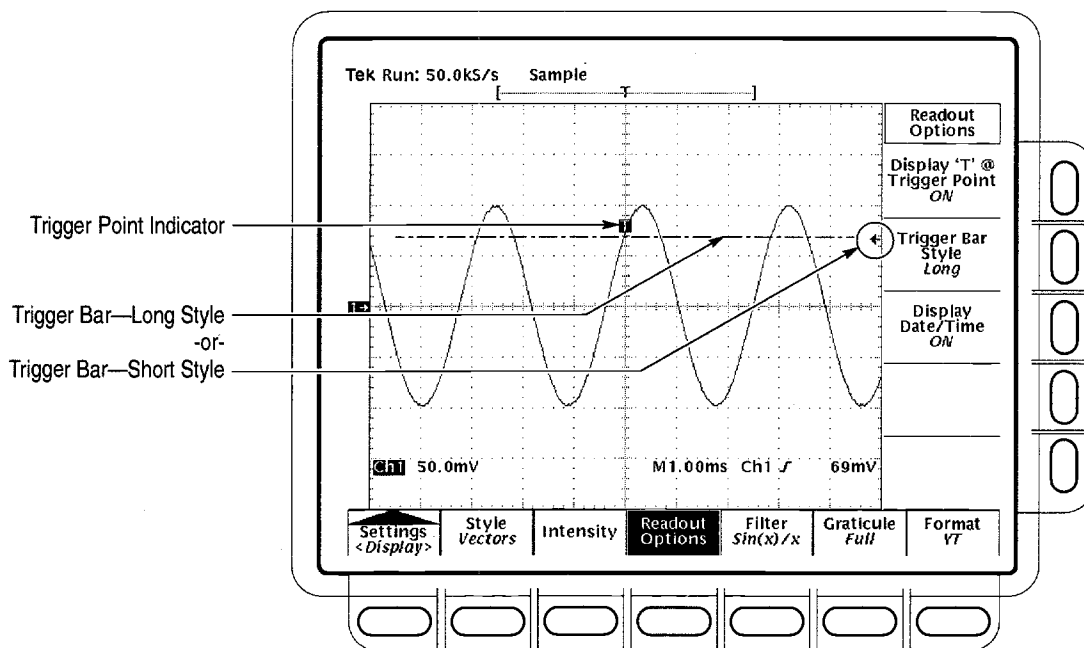

Figure 3–20: Trigger Point and Level Indicators
3. Press **Trigger Bar Style** (side) to select either the short or the long trigger bar or to turn the trigger bar off. (See Figure 3–20. Note that both styles are shown for illustrating purposes, but you can only display one style at a time.)
1. Color oscilloscopes: Select the main menu **Change Colors** item. (See Figure 3–22.)